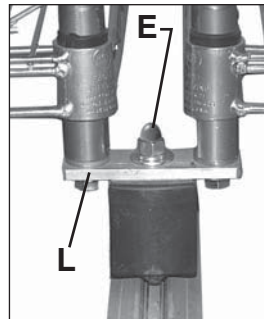
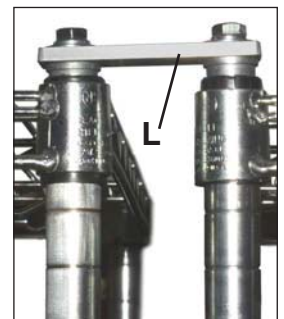

figure 3
figure 3a
Place center tie bar(L) on top of the skate. Align skates(A) top holes with the middle hole in the center tie bar. See "for End Posts" sequence above. Use two 3/16" flat washers(B) with lock washers(C) and a 3/16"-16x1 1/4" bolt(D1.25) and acorn nut(E) to attach center tie bar(L) as shown in figure 3. Use a flat head screw driver to start assembly. Repeat on opposite side. Attach wire shelving units to sides of center tie bar on skate (see "Double-Deep Unit" on back page). Use a 3/16" flat washer(B) with lock washer(C) and 3/16"-16x2" bolt(D2) to screw through center tie bar and into the bottom of the post as shown in figure 3. Tighten bolts with a ratchet, small extension and 3/16" socket as shown in figure 2. Place center tie bar on top of posts and secure using a 3/16" flat washer(B) with lock washer(C) and 3/16"-16x2" bolt(D2) as shown in figure 3a.